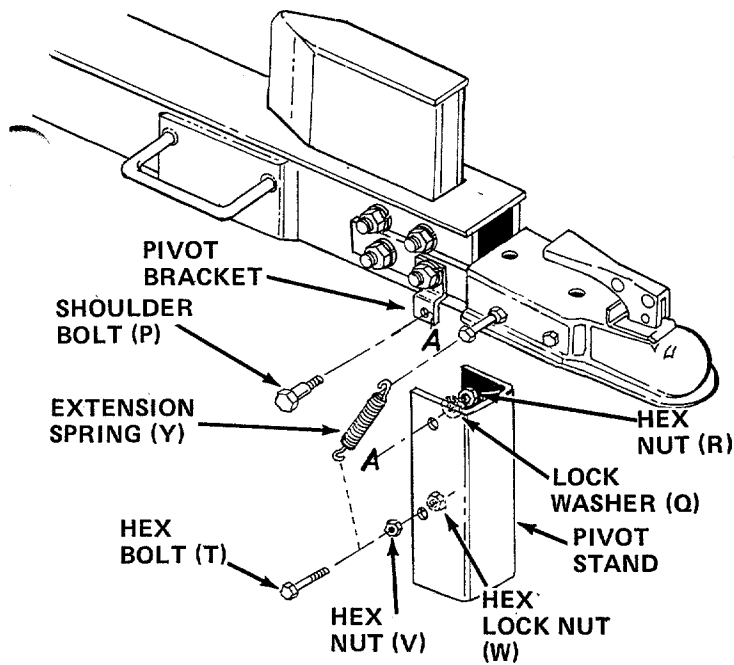

FIGURE 6
7. Thread hex nut (V) onto hex bolt (T). Secure to pivot stand with hex lock nut (W) as shown in figure 6.
8. Assemble the pivot stand to the pivot brackets with two shoulder bolts (P), lock washers (Q) and hex nuts (R).
9. Attach extension spring (Y) to long hex bolts on tow hitch and pivot stand. See figure 6.